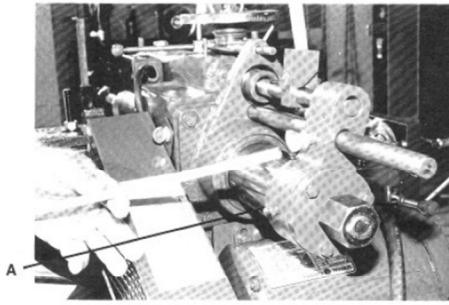

FIGURE 1A
- Grease Timkin Bearing at “A” in figure 1a below with a good bearing grease.